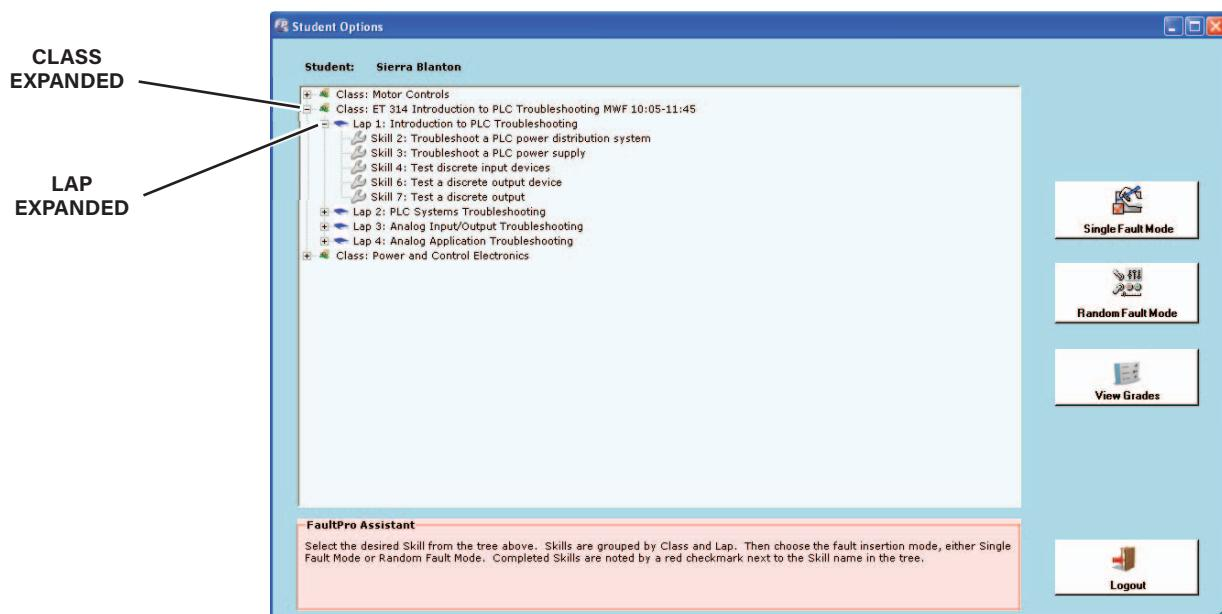

Figure 79. LAP Object Expanded
- A. Select the plus sign [+] next to the Class in which you are currently sitting/working to expand the class object and display its contents, as shown in figure 79.
- B. Select the plus sign [+] next to the LAP number/title that matches the one that you are currently working with to display its skills, also shown in figure 79.